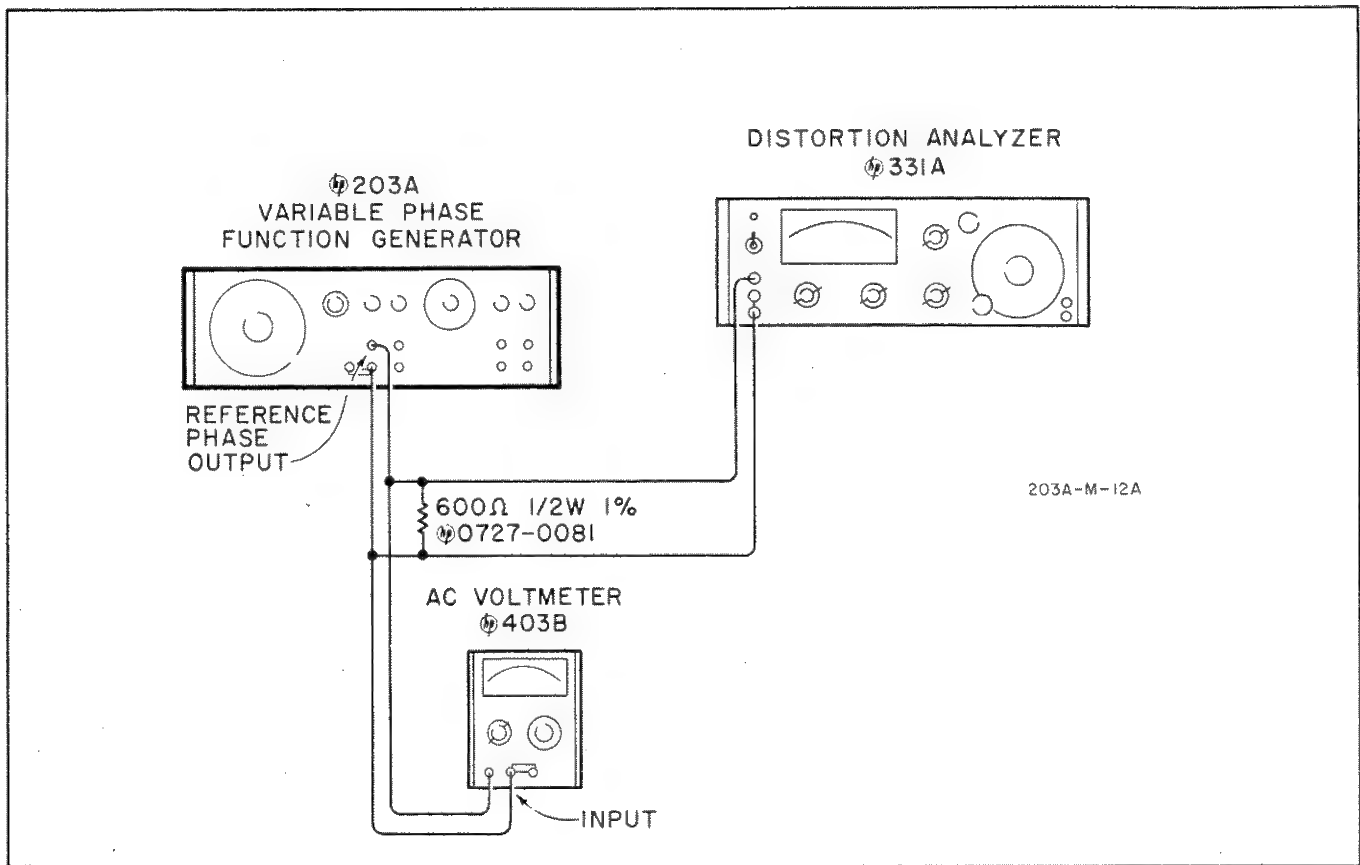

Figure 5-3. Sine Wave Check
a. Connect Model 203A as shown in figure 5-3.